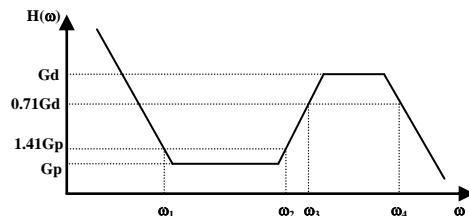

Figure 14. Transfer Function of the Compensation Network
The transfer function of the compensation network, defined as  $H(\omega) = \text{IDR}(\omega) / \text{TMS}(\omega)$ , is shown in Figure 14.
- d.  $C_D \times R_I$  determines the corner frequency,  $\omega_2 = 1/(C_D \times R_I)$ , where the differential component starts picking up (see Figure 14), as the frequency goes up.
h. The evaluation schematic is given in Figure 14.